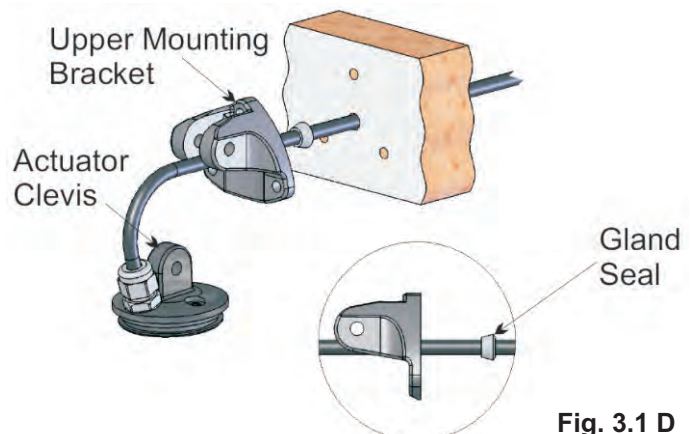

Fig. 3.1 D
- ⑩ Insert the actuator cable through the appropriate hole in the upper mounting bracket until it reaches the actuator. Insert the actuator cable through the gland seal until it reaches the upper bracket. (See Fig 3.1 D)